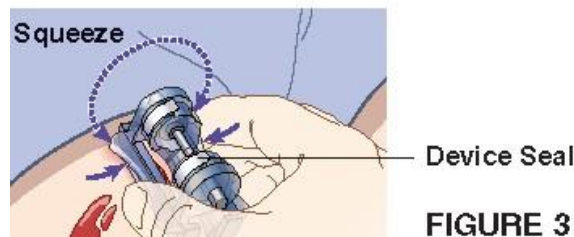

FIGURE 3
7. Press the arms of device together to close the device. Device seal will break with pressure, allowing device to close (**See Fig. 3**).